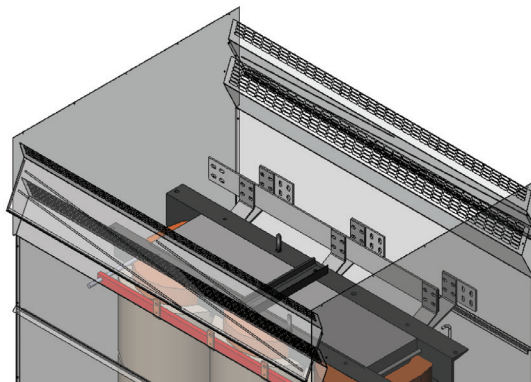
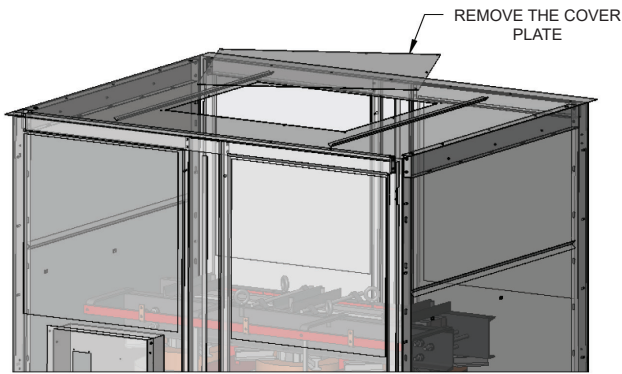

FIGURE 2
FIGURE 3
- (1) Remove the roof of DH type of enclosure (see figure 2) or lifting cover plate on roof of power enclosure (see figure 3).